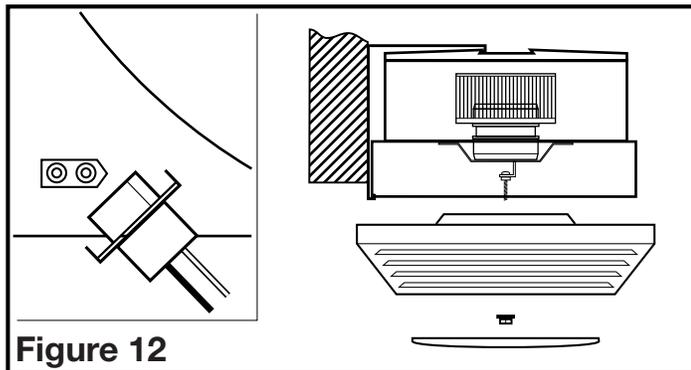

**Figure 11**
3. Install the grill/lens/light reflector, by first removing the lens from the grill (there are two tabs on either side that hold the lens in place). Then remove the acorn nut and the lock washer which are installed on the reflector mounting bolt in the fan housing. Adjust the height of the reflector mounting bolt so that the grill will be tight up against the finished ceiling and less than 1/4" of the reflector mounting bolt protrudes through the reflector. Secure the reflector bolt's position by tightening the factory installed nut against the motor clip (**Figure 11**).